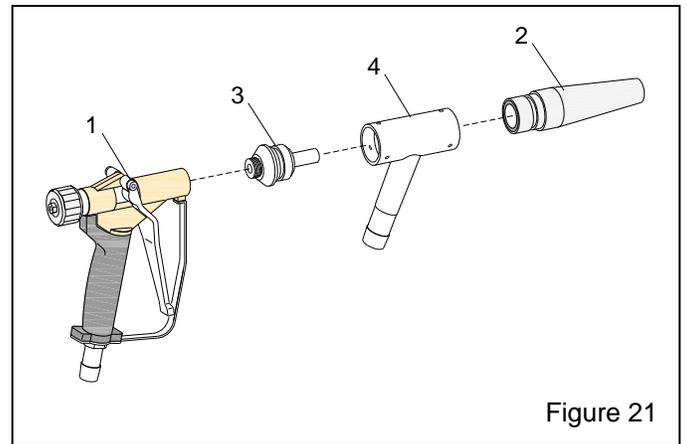

Figure 21
9.3 Blast Gun Assembly, Dry Blast – Figure 21
1.	Blast gun assembly, dry blast model refer to Figure 21 for individual parts100477